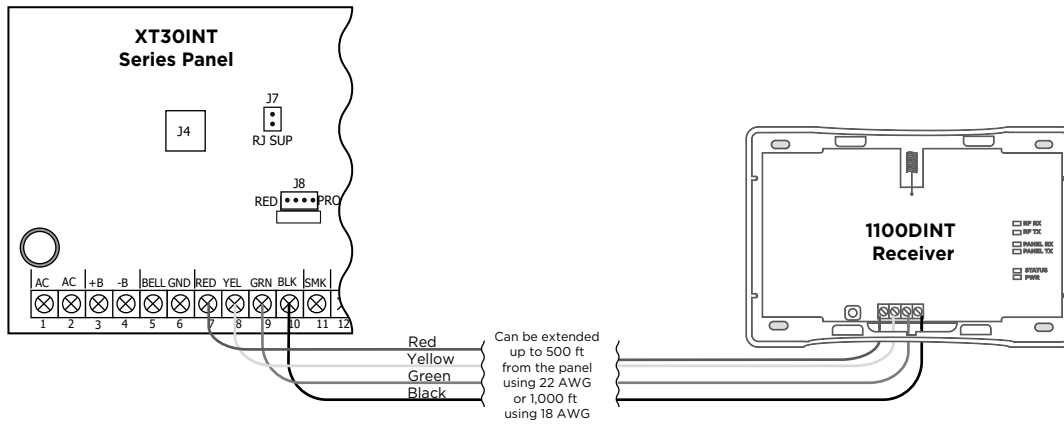

Figure 3: Wiring the 1100DINT to the Panel
1. Connect the red, yellow, green, and black wires to the **PANEL** terminal on the 1100DINT. Connect the other end of the wires to the 7, 8, 9, and 10 terminals on the panel. See Figure 3.
The six labeled LEDs on the 1100DINT PCB display wireless receiver operation and activity. See Figure 3 for LED locations and Table 2 for LED indications.